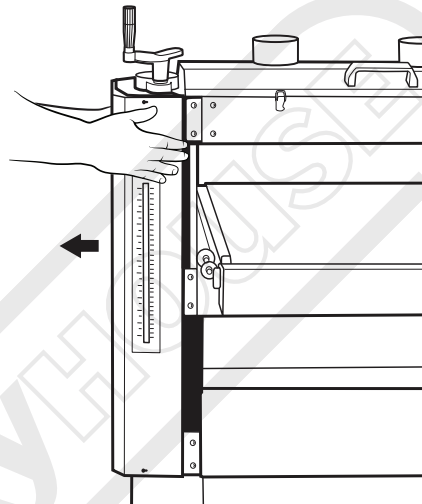

FIG. 14
2. Remove the eight Phillips head bolts and washers securing the left and right side guards to the machine and remove the guards. See Fig. 14.